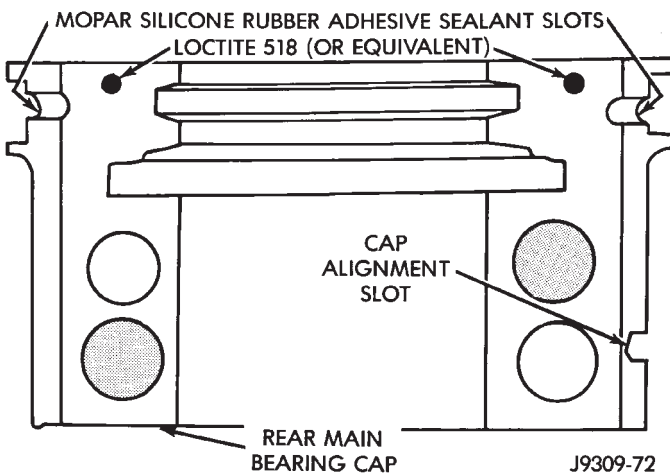
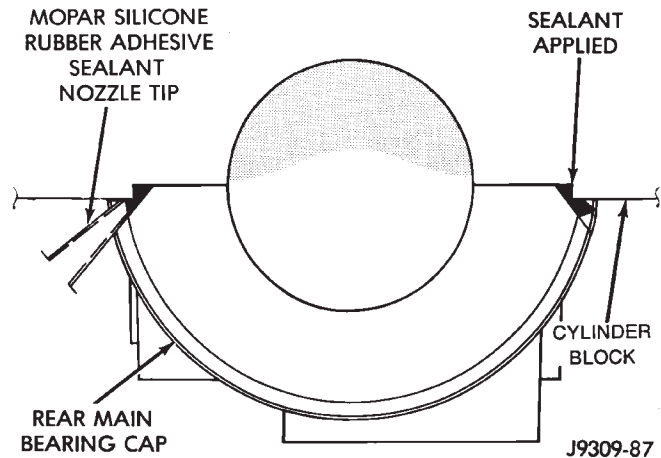

Fig. 45 Sealant Application to Bearing Cap
Fig. 46 Apply Sealant to Bearing Cap to Block Joint
(2) Lightly oil the new upper seal lips with engine oil.
(3) Install the new upper rear bearing oil seal with the white paint facing towards the rear of the engine.
(4) Position the crankshaft into the cylinder block.
(5) Lightly oil the new lower seal lips with engine oil.
(6) Install the new lower rear bearing oil seal into the bearing cap with the white paint facing towards the rear of the engine.
(7) Apply 5 mm (0.20 in) drop of Loctite 518, or equivalent, on each side of the rear main bearing cap (Fig. 45). DO NOT over apply sealant or allow the sealant to contact the rubber seal. Assemble bearing cap to cylinder block immediately after sealant application.
(8) To align the bearing cap, use cap slot, alignment dowel and cap bolts. DO NOT remove excess material after assembly. DO NOT strike rear cap more than 2 times for proper engagement.
(9) Clean and oil all cap bolts. Install all main bearing caps. Install all cap bolts and alternately tighten to 115 N·m (85 ft. lbs.) torque.
(10) Install oil pump.
(11) Apply Mopar Silicone Rubber Adhesive Sealant, or equivalent, at bearing cap to block joint to provide cap to block and oil pan sealing (Fig. 46). Apply enough sealant until a small amount is squeezed out. Withdraw nozzle and wipe excess sealant off the oil pan seal groove.
(12) Install new front crankshaft oil seal.
(13) Immediately install the oil pan.
(1) Clean the cylinder block mating surfaces before oil seal installation. Check for burr at the oil hole on the cylinder block mating surface to rear cap.
(2) Lightly oil the new upper seal lips with engine oil. To allow ease of installation of the seal, loosen at least the 2 main bearing caps forward of the rear bearing cap.
(3) Rotate the new upper seal into the cylinder block being careful not to shave or cut the outer surface of the seal. To assure proper installation, use the installation tool provided with the kit. Install the new seal with the white paint facing towards the rear of the engine.
(4) Install the new lower rear bearing oil seal into the bearing cap with the white paint facing towards the rear of the engine.
(5) Apply 5 mm (0.20 in) drop of Loctite 518, or equivalent, on each side of the rear main bearing cap (Fig. 45). DO NOT over apply sealant or allow the sealant to contact the rubber seal. Assemble bearing cap to cylinder block immediately after sealant application. Be sure the white paint faces toward the rear of the engine.
(6) To align the bearing cap, use cap slot, alignment dowel and cap bolts. DO NOT remove excess material after assembly. DO NOT strike rear cap more than 2 times for proper engagement.
(7) Install the rear main bearing cap with cleaned and oiled cap bolts. Alternately tighten ALL cap bolts to 115 N·m (85 ft. lbs.) torque.
(8) Install oil pump.
(9) Apply Mopar Silicone Rubber Adhesive Sealant, or equivalent, at bearing cap to block joint to provide cap to block and oil pan sealing (Fig. 46). Apply
- (1) Clean the rear main cap mating surfaces including the oil pan gasket groove.
- (2) Carefully install a new upper seal (refer to Upper Seal Replacement - Crankshaft Installed procedure above).
- (3) Lightly oil the new lower seal lips with engine oil.
- (4) Install a new lower seal in bearing cap with the white paint facing the rear of engine.
- (5) Apply 5 mm (0.20 in) drop of Loctite 518, or equivalent, on each side of the rear main bearing cap (Fig. 45). DO NOT over apply sealant or allow the sealant to contact the rubber seal. Assemble bearing cap to cylinder block immediately after sealant application.
- (6) To align the bearing cap, use cap slot, alignment dowel and cap bolts. DO NOT remove excess material after assembly. DO NOT strike rear cap more than 2 times for proper engagement.
- (7) Install the rear main bearing cap with cleaned and oiled cap bolts. Alternately tighten the cap bolts to 115 N·m (85 ft. lbs.) torque.
- (8) Install oil pump.
- (9) Apply Mopar Silicone Rubber Adhesive Sealant, or equivalent, at bearing cap to block joint to provide cap to block and oil pan sealing (Fig. 46). Apply enough sealant until a small amount is squeezed out. Withdraw nozzle and wipe excess sealant off the oil pan seal groove.